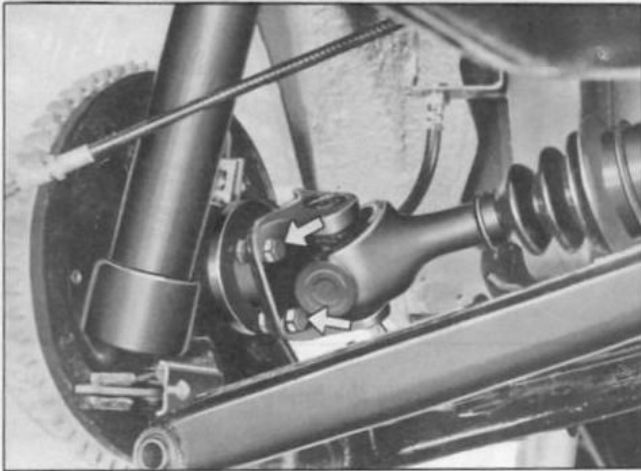

Fig. RA-13 Removing the drive shaft
4. Remove the drive shaft installation bolts (wheel side). (Figure RA-13).